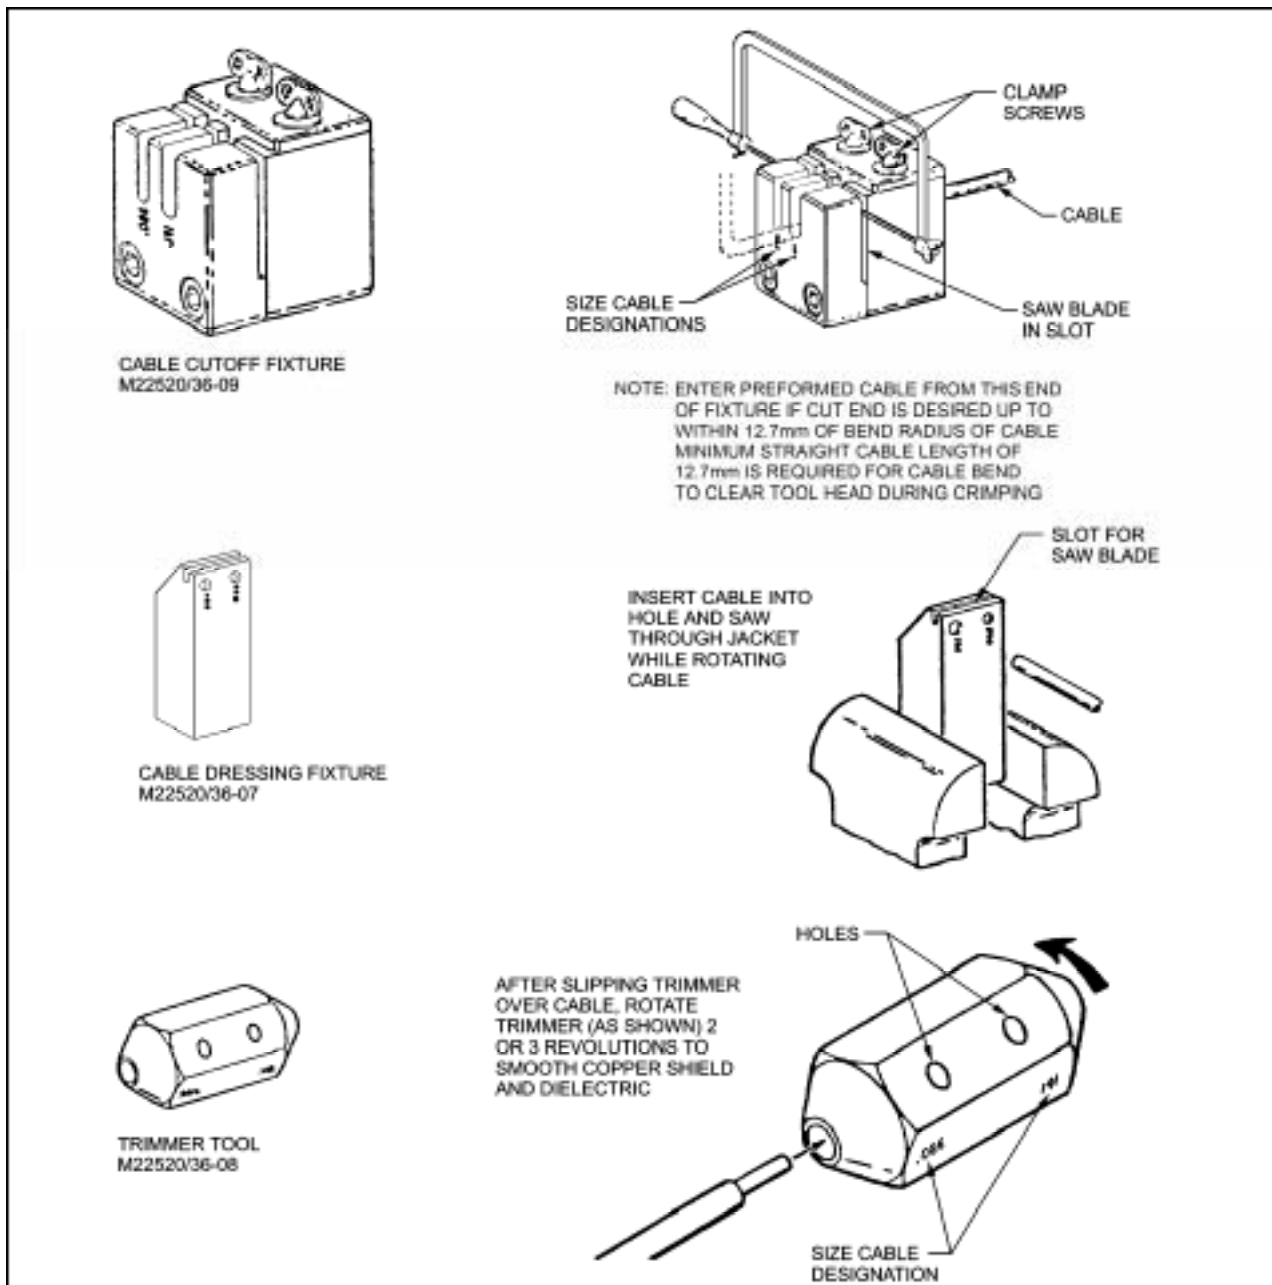

Figure 12-53 Tooling to Prepare Semi-rigid Cable
42. Before terminating the SMA connectors to the semi-rigid cable, the cable must be prepared using the components of the preparation tooling listed in Figure 12-53.
- Insert end of cable into cable size-designated hole (see Figure 12-53).
- Using the trimmer tool, smooth copper shield and dielectric (Figure 12-53). This is accomplished as follows: